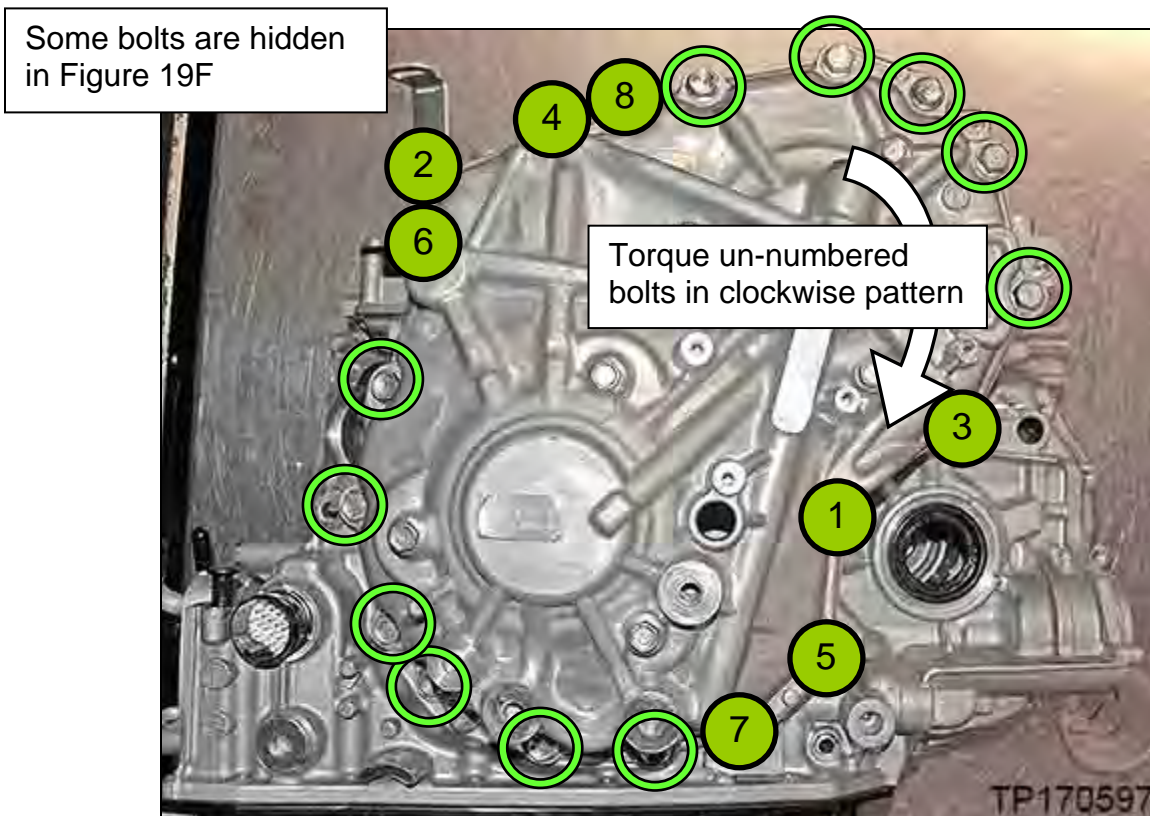

Figure 19F
12. Remove the two (2) CVT Assembly Guide Pins (# J-51959).
13. Install the sub-assembly side cover with nineteen (19) new side cover bolts to the CVT case (Figure 19F).
- Torque the first eight (8) bolts marked as ● in the sequence numbered in Figure 19F below, and then torque the rest of the bolts in a clockwise manner.